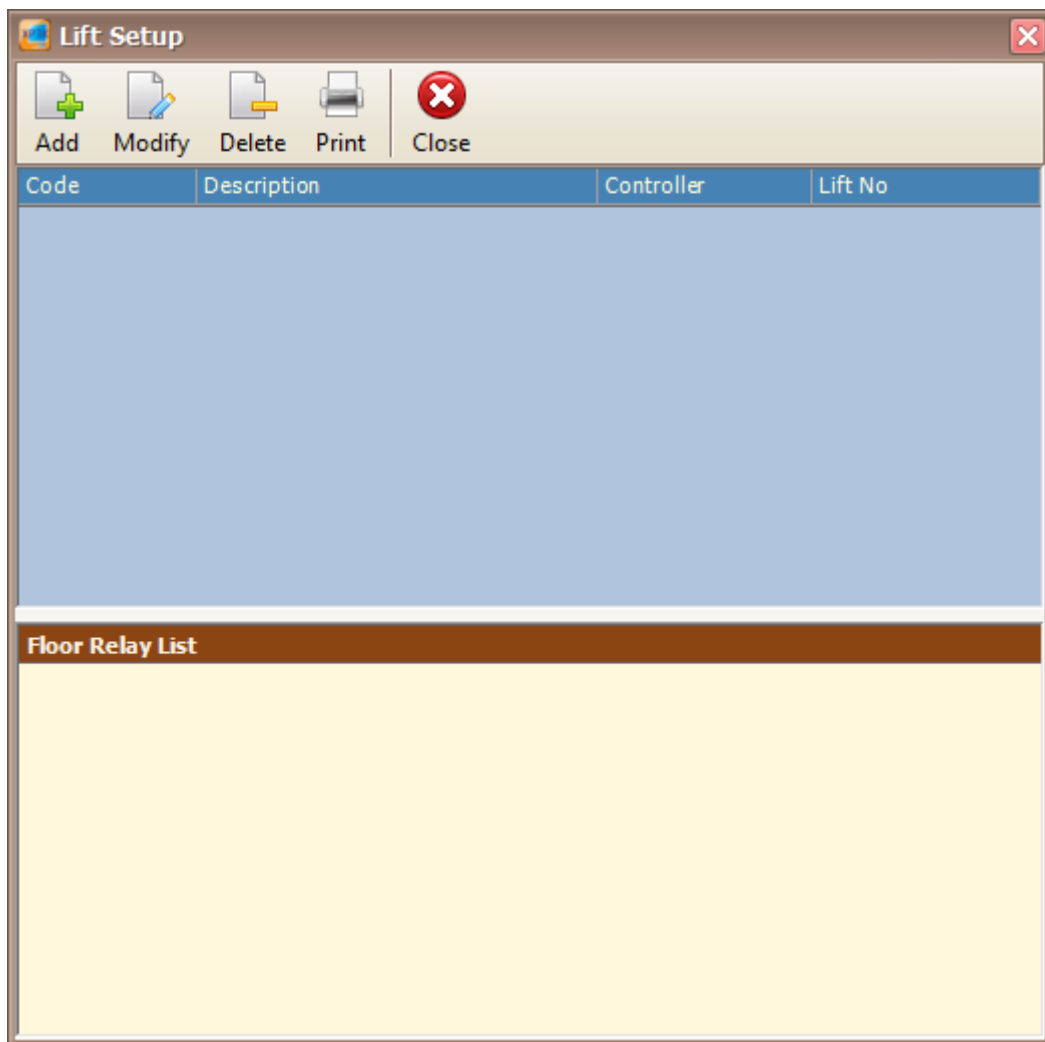

Figure 137 - Lift Setup
2. The following window will be shown (Refer **Figure 137**).